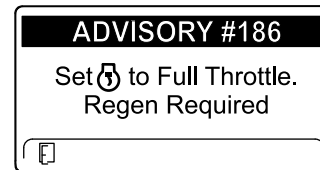

Figure 41
**Note:** If the engine exhaust temperature is too low, the InfoCenter displays ADVISORY #186 (Figure 41) to inform you to set the engine to full throttle (high idle).